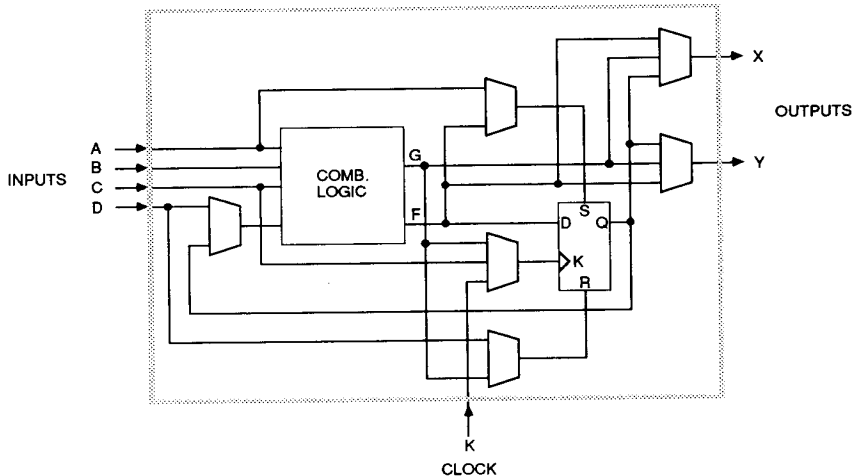

Figure 4. Configurable Logic Block
Each logic block has a combinational logic section, a storage element, and an internal routing and control section. Each CLB has four general-purpose inputs: A, B, C and D; and a special clock input (K), which may be driven from the interconnect adjacent to the block. Each CLB also has two outputs, X and Y, which may drive interconnect networks. Figure 4 shows the resources of a Configurable Logic Block.
The two block outputs, X and Y, can be driven by either the combinatorial functions, F or G, or the storage element output Q (Figure 4). Selection of the outputs is completely interchangeable and may be made to optimize routing efficiencies of the networks interconnecting the logic blocks and I/O blocks.